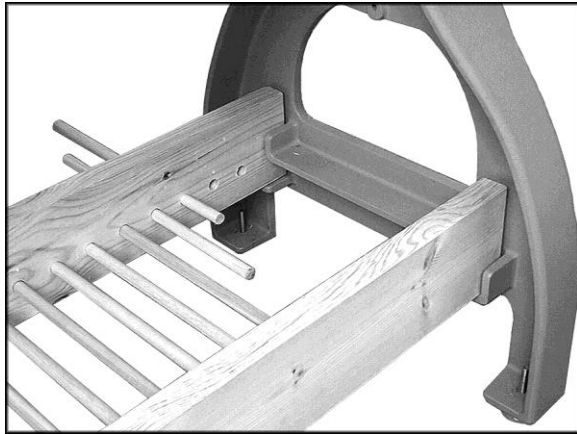

Figure 22
Shelf Style 3: (Figure 22)
This is a basket-style shelf consisting of two 2x6's and dowel rods. The advantage of this design is that most wood chips will fall through the shelf instead of accumulating on it. The instructions below are for building the shelf shown in Figure 22.
6. Insert the dowel rods through the holes in the rear 2x6, as shown in Figure 22.